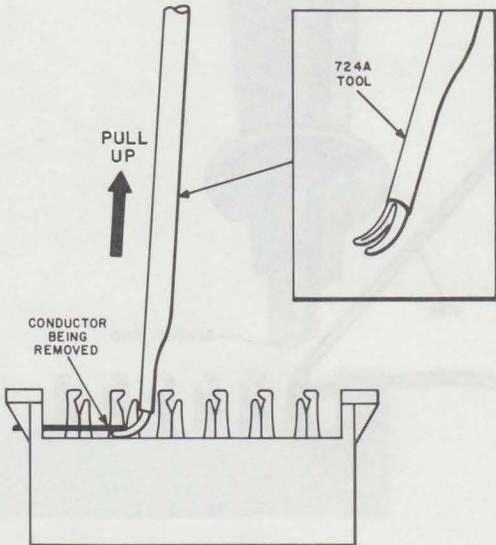

Fig. 4—Removing Conductor With 724A Tool
**2.12** The 724A tool (Fig. 4) is used to remove conductors from the terminals of 66-type connecting blocks. The tool consists of a 2-pronged